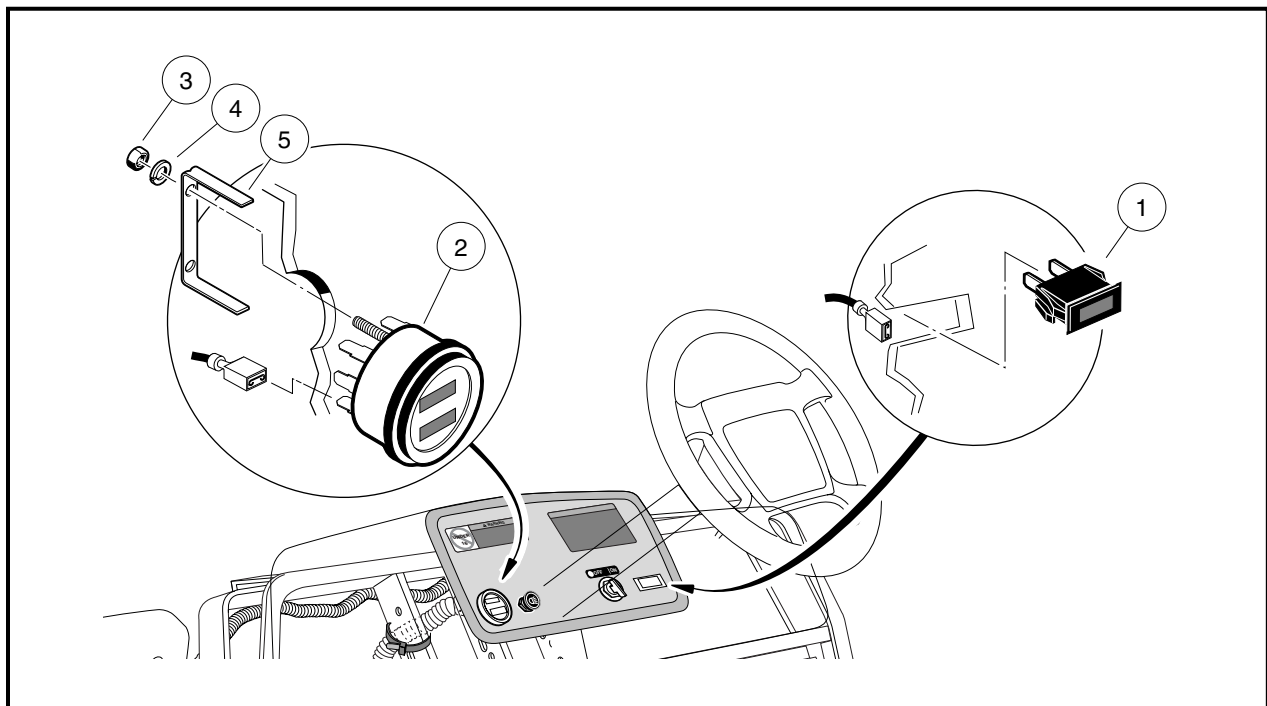

Figure 12b-23 Fuel Gauge/Hour Meter and Oil Warning Light Assembly
2. Disconnect the battery cables as instructed (**Figure 12b-1, Page 12b-1**). See **WARNING "To avoid unintentionally starting..."** in General Warning, Section 1, Page 1-2.
4. Disconnect the wires from the oil warning light (1) (**Figure 12b-23, Page 12b-19**). Do not allow wires to touch.
1. Push a new unit into hole in dash until plastic tabs engage dash (**Figure 12b-23, Page 12b-19**).